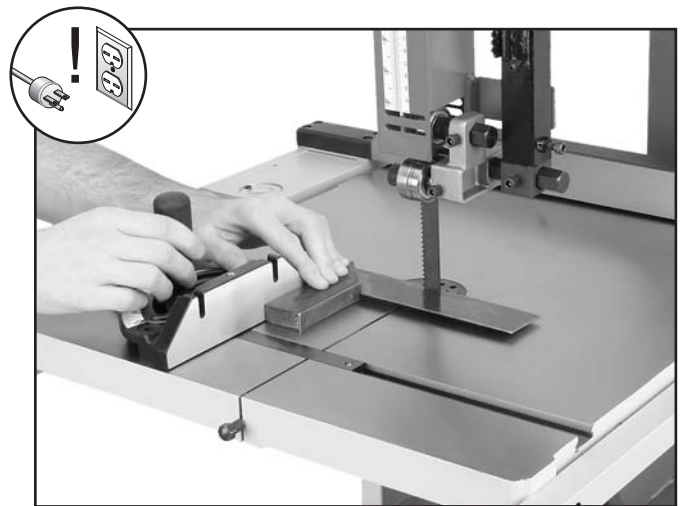

Figure 61. Squaring miter gauge to blade.
2. Use a machinist's square with one edge against the face of the miter gauge and the other against the blade face as shown in **Figure 61**.